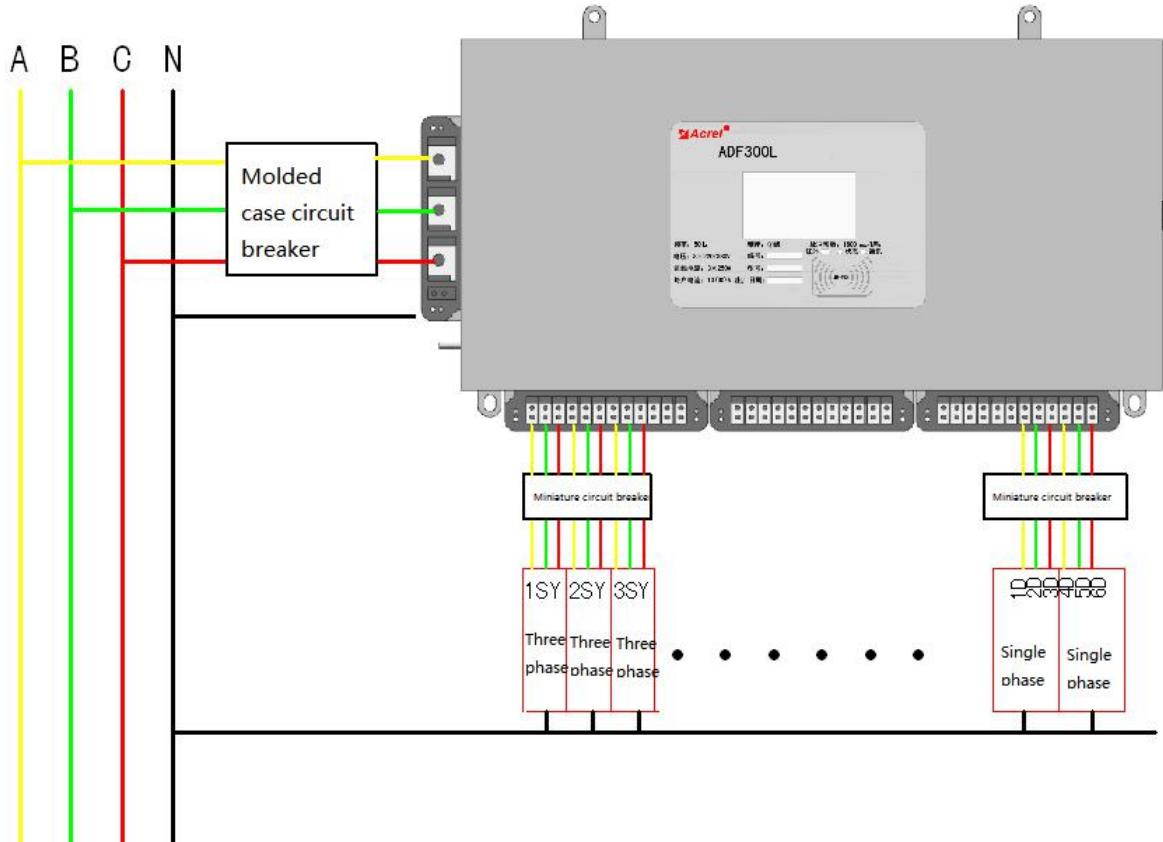

Figure 8 Schematic of the communication address
9.2 MODBUS Mailing address description As figure 8: